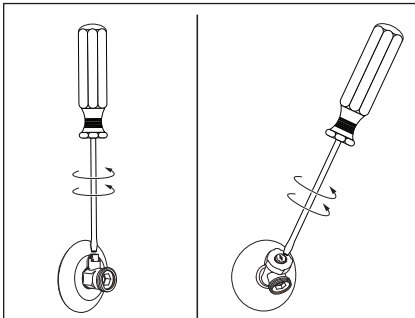

Figure 11 - Draining the old water heater.
- 8** Open the drain valve on the water heater (Figure 11).